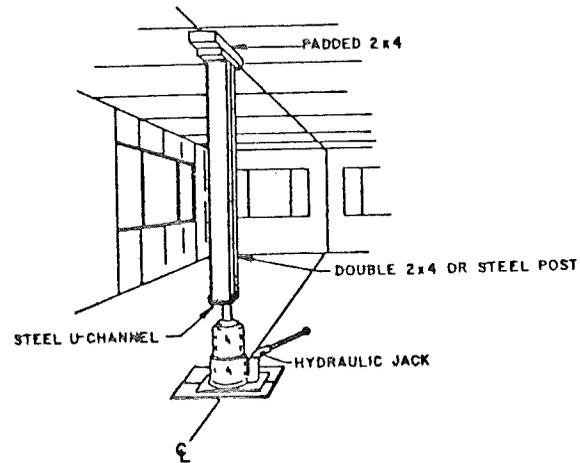

FIG. 9
4. Carefully inspect the ceiling line at the marriage line for low points. To raise these points, use a hydraulic jack with a post, as shown in fig. 9. Raise the jack until the two ceiling halves are flush. Now, complete fastening the ridge beam with 3 1/2" lags staggered 24" o.c. between the ends. Repeat the procedure at all low points.